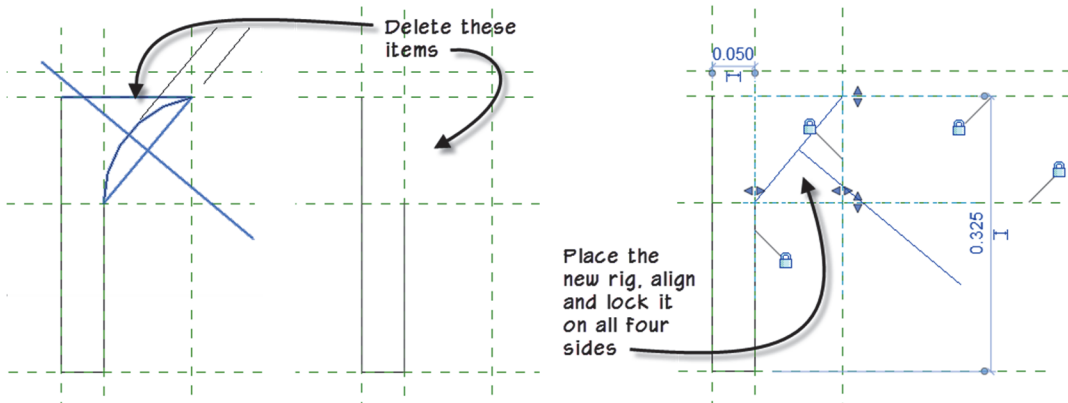

FIGURE 4.47
10. Delete the top horizontal profile line, the arc and the detail item rig (see the left side of Figure 4.47).
For each alignment, first click one of the reference planes in the host family, and then click the nested shape handle edge in the detail item family. Use TAB if necessary to get shape handle each time (see the right side of Figure 4.47).